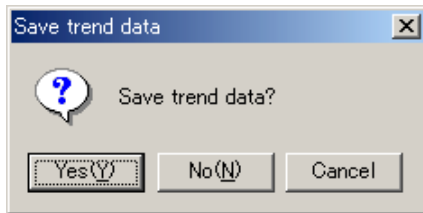

Figure 5.2.2 Save Trend Data Confirming Message Box
- (1) From the toolbar, click the [] shortcut, or from the menu bar, choose **Multi-monitor**, then choose **Stop trend display** while the trend display is working.
- (2) The following message box (Figure 5.2.2) appears for confirmation.